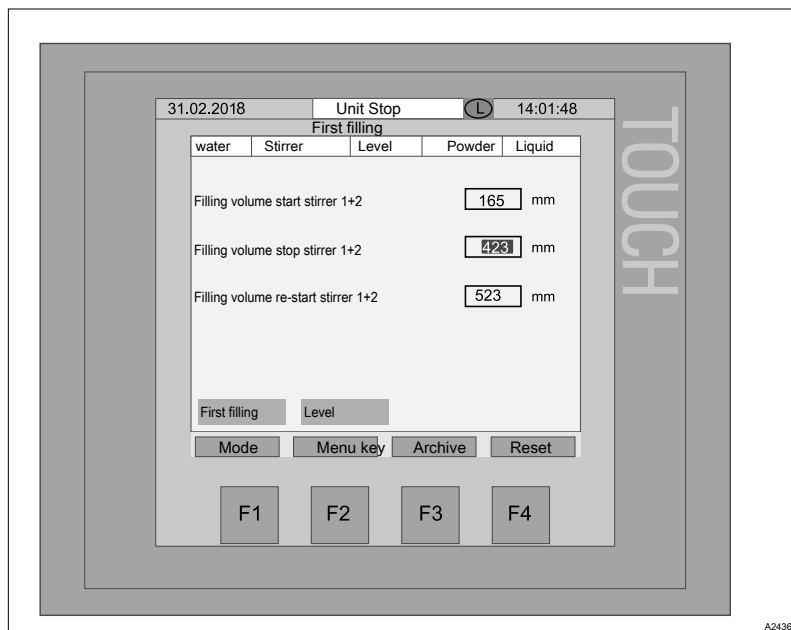

Fig. 26: First filling parameters
- Select the *[First filling]* view, see Fig. 26 and make the adjustments.